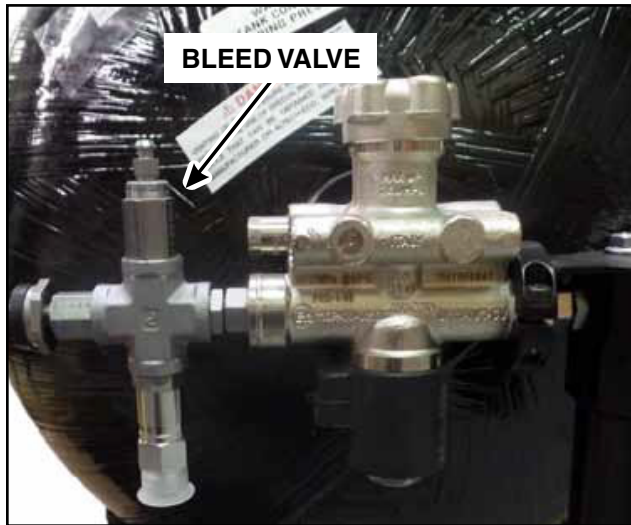

FIGURE 4a
4. Identify the bleed valve. Using the bleed valve, relieve any residual pressure from the CNG fuel system until none remains. See Figures 4a and 4b.
6. Identify the bleed valve. Using the bleed valve, relieve any residual pressure from the CNG fuel system until none remains. See Figures 4a and 4b.